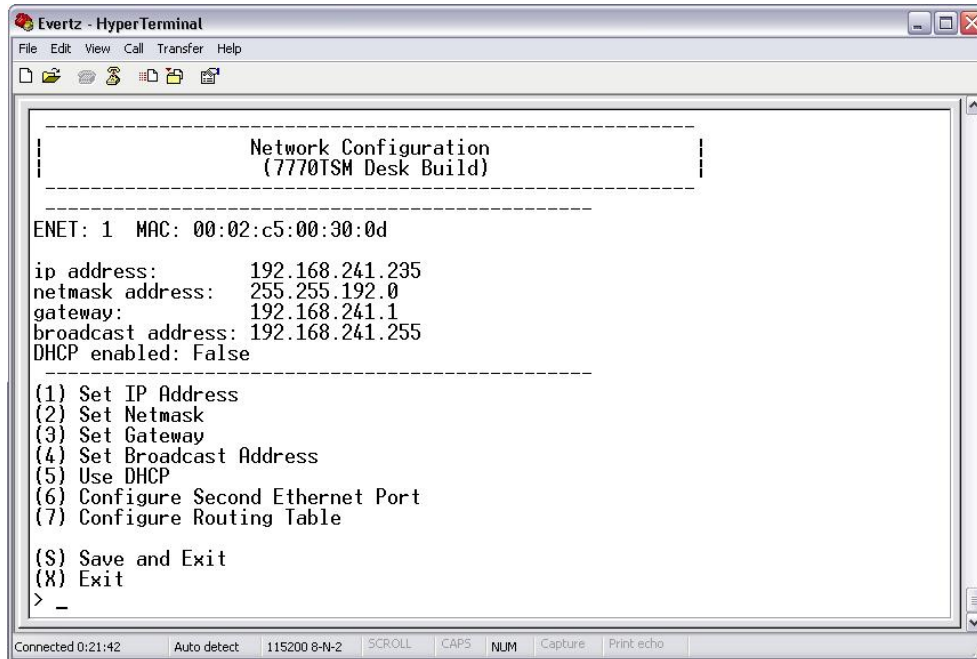

Figure 2-3: Network Configuration Sub-Menu
From the terminal session window select option (1) *Network Configuration*, the Network Configuration menu will be displayed as shown in Figure 2-3. If you prefer to use DHCP then you may select option (5) *Use DHCP*, and then continue from step 4:
1. Select option (1) *Set IP Address* and configure the IP address for the 7780TSM-IP ensuring that the IP address is not already in use on the network.
2. Now select option (2) *Set Netmask* and configure the correct subnet mask for your network.
3. If required also configure option (3) *Set Gateway*.
4. Exit from the Network Configuration menu using (S) *Save and Exit*, NOT (X) *Exit*.